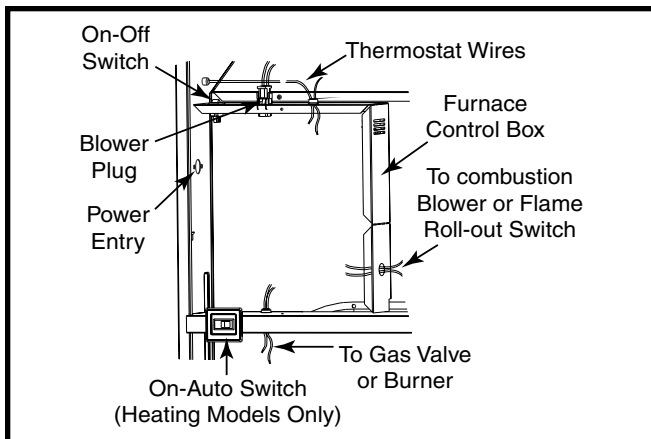

Figure 24. Control Panel (All Models)
Route all electrical wiring to the left side of the furnace. See Figure 24. For installation of A-size Cabinet furnaces, allow sufficient slack in the wiring if an optional cooling coil cabinet is added at a later time. *Use of copper conductors is recommended.*
2. Route wires (115 VAC) through the strain relief on the left side of the furnace control box (Figure 24).